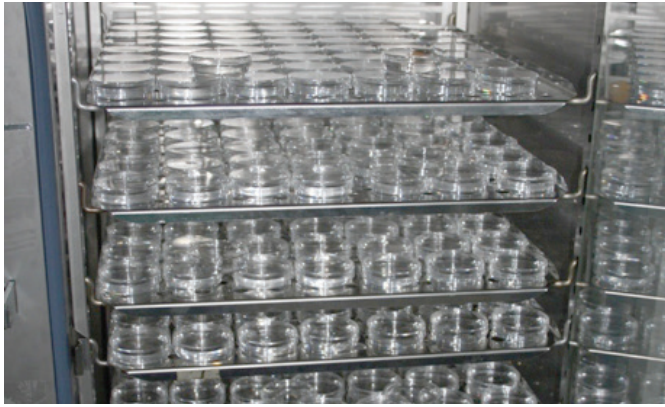

Figure 2: A modified door gasket with a cut out to allow better airflow, thus minimizing condensation in the incubator chamber.
- **Replacement of standard gasket with a modified one comprising 2 special cut outs (Fig. 2, next page) that enable better air circulation and avoid more condensation formation inside the chamber.**
In case the condensation issue is more important for the user, the best option is the use of an IMH unit with 100% fan speed and, as needed, the use of the special gasket with cut outs (Fig. 2).